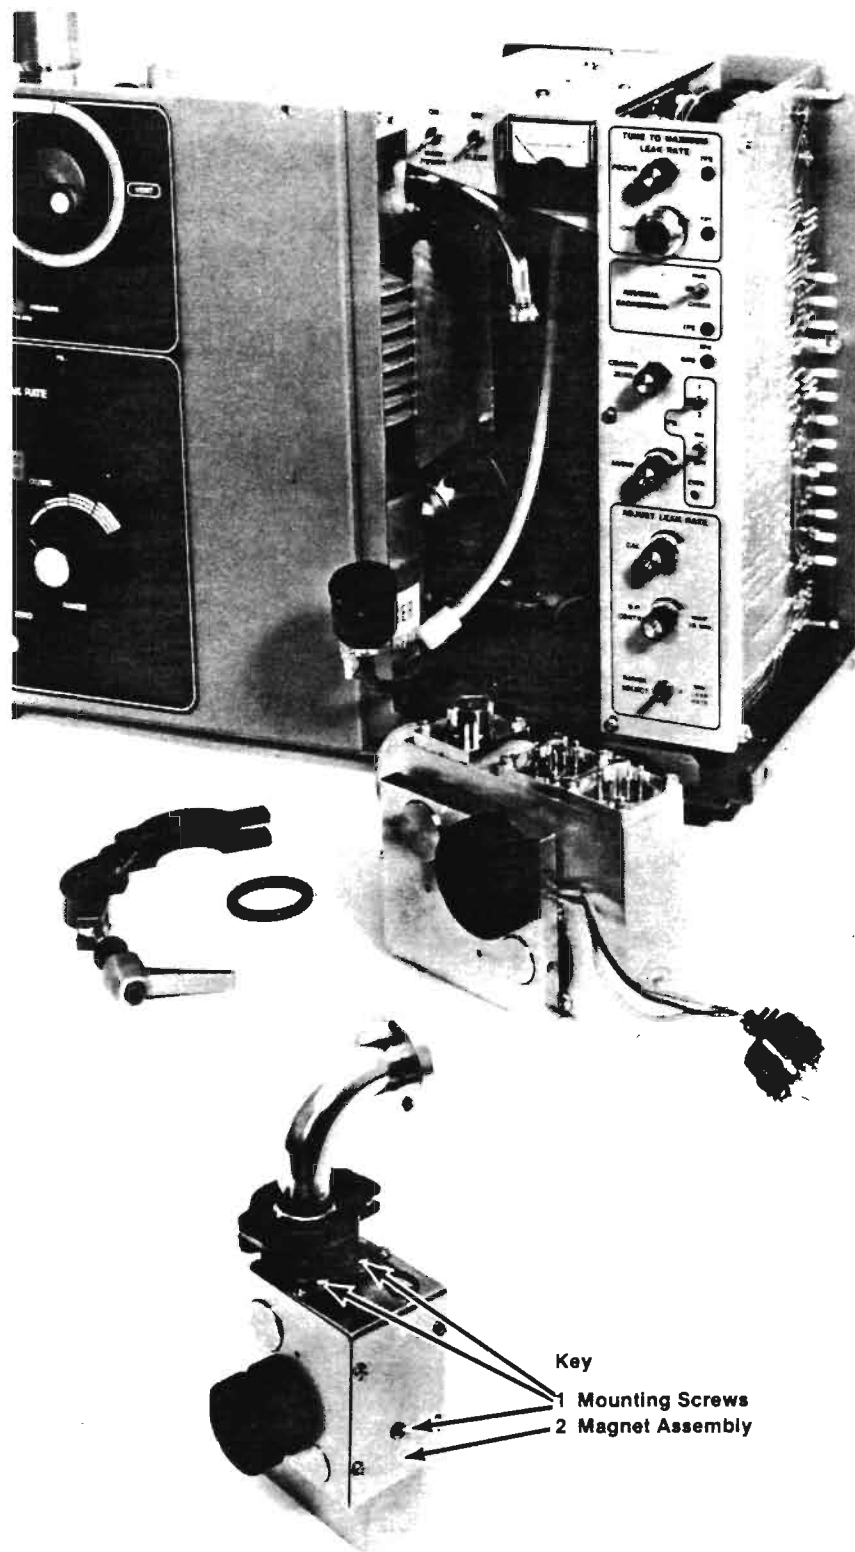
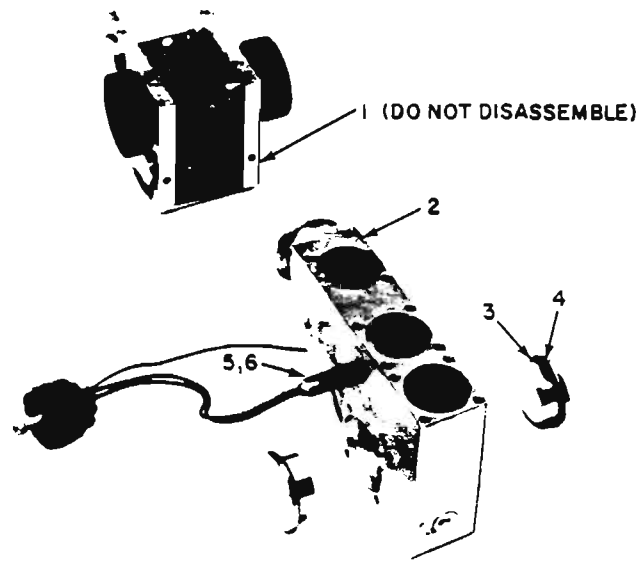
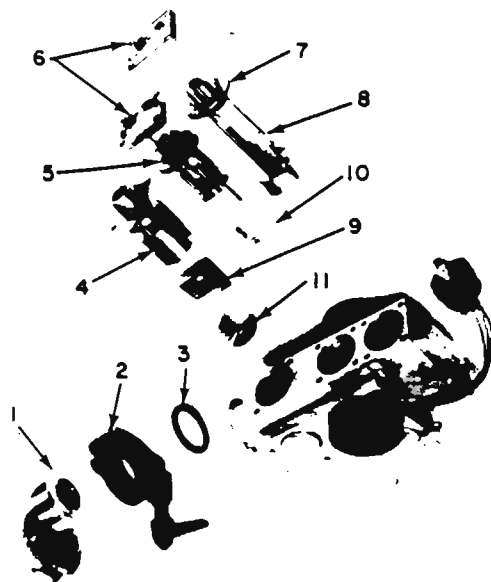

Fig. 4-12. Spectrometer Tube Removed From Cabinet
Fig. 4-13. Spectrometer Tube and Magnet Assembly
Fig. 4-14. Spectrometer Tube, Exploded View
5. Remove spectrometer tube from cabinet (Fig. 4-12).
6. Remove three mounting screws (1, Fig. 4-12) and take off magnet assembly (Fig. 4-13).
7. Slide heater (5) out of its recess in tube body (2).
8. Remove cold cathode gauge (4, Fig. 4-14), ion source (5) and preamplifier (8). Discard ion source, but handle other two parts by flanged-pin end only, to prevent contamination by skin contact.
9. Slip out baffle (11) between cold cathode gauge and ion source cavities. Carefully remove ground slip plate (10) from ion source cavity, using "shoe hook" or thin screwdriver.
10. Remove four Phillips-head screws on each side of spectrometer tube body (2, Fig. 4-13) and slip out both pole pieces (4). Discard O-rings (3).
2. Remove four screws that secure clamp (6, Fig. 4-14), then gently slide ion source (5) out of spectrometer tube body. Discard ion source.
2. Remove four screws that secure clamp (6, Fig. 4-14), then gently slide cold cathode gauge out of spectrometer tube body.